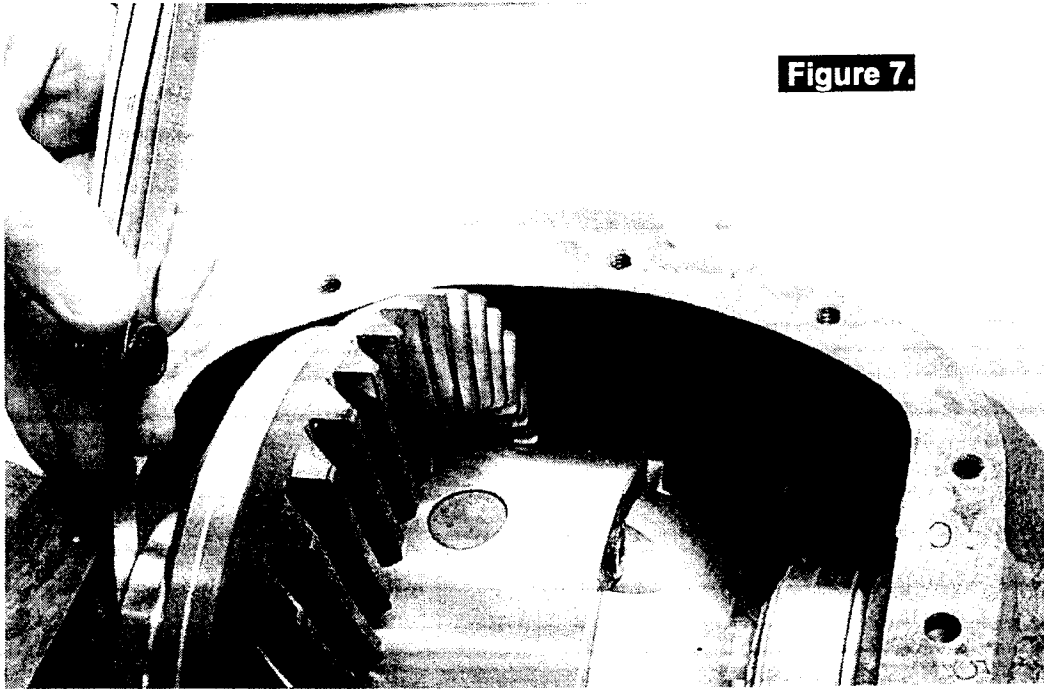

Figure 7.
- Push (or lightly pry) the *Air Locker* hard across to the right-hand side, and measure the gap (also called the 'end float') between the bearing cup and the housing with a feeler gauge (See Fig 7.).